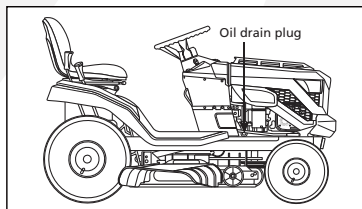

Fig. 34
1. Put the unit on a level surface as shown in Fig. 34.